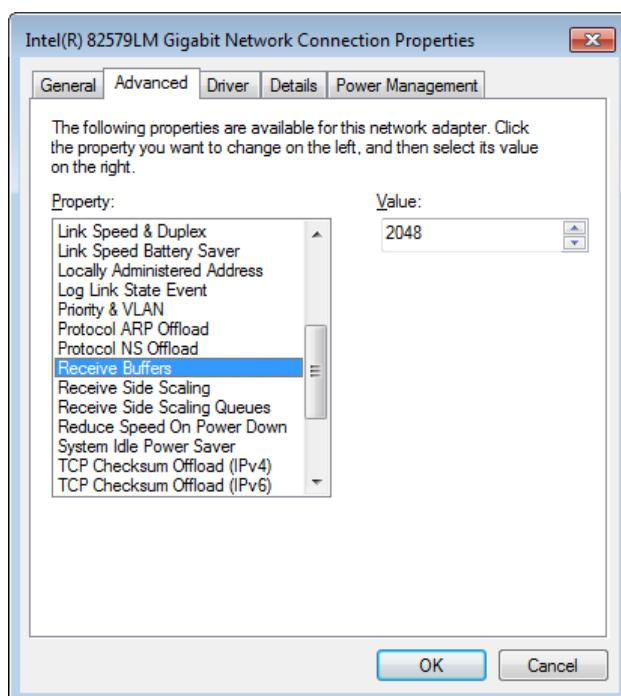

Figure 81: Network interface card - advanced driver settings - Receive Buffers
4. The settings of the driver can be accessed by choosing the *Advanced* tab of the opened window. As shown in Figure 81, raise the value of the *Receive Buffers* property to its maximum value.